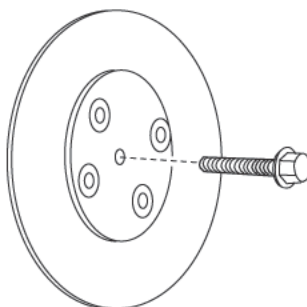

Figure 1-3. Shipping Bolt Removal
1. Remove the CD changer mechanism shipping bolt from the back of the phonograph cabinet (see *Figure 1-3*).